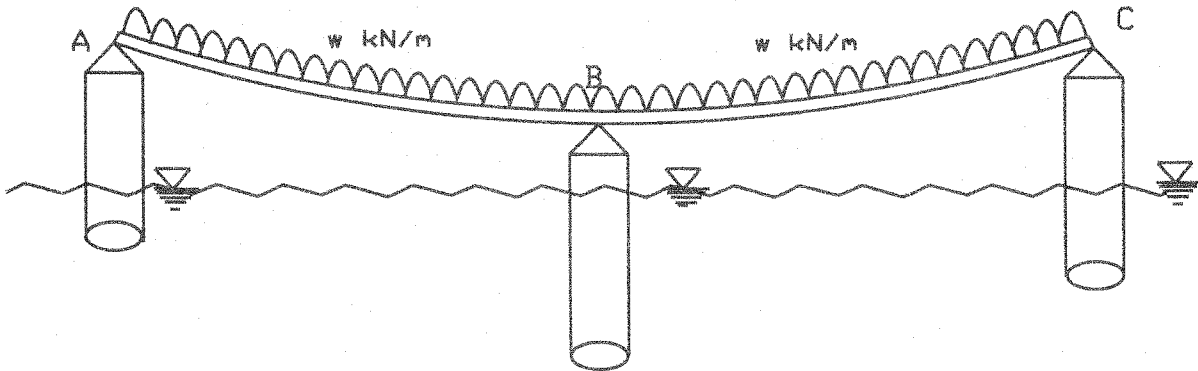

Fig. Q5
- Q5. a) Straight elastic beam ABC of uniform cross section with constant flexural rigidity of EI rests on 3 identical diameter cylindrical floats of radius R (in m) as shown in Fig. Q5. Beam is expected a uniform distributed load of intensity  $w$  kN/m at critical condition. Using three moment theorem, calculate the load carried by the central float and end floats. Ignore self-weights of the jetty. The buoyancy force of each float (uplift force acting on the structure due to water pressure) for 1 m length of immersion shall be taken as  $k$  ( $=\pi R^2 \rho g$ ).